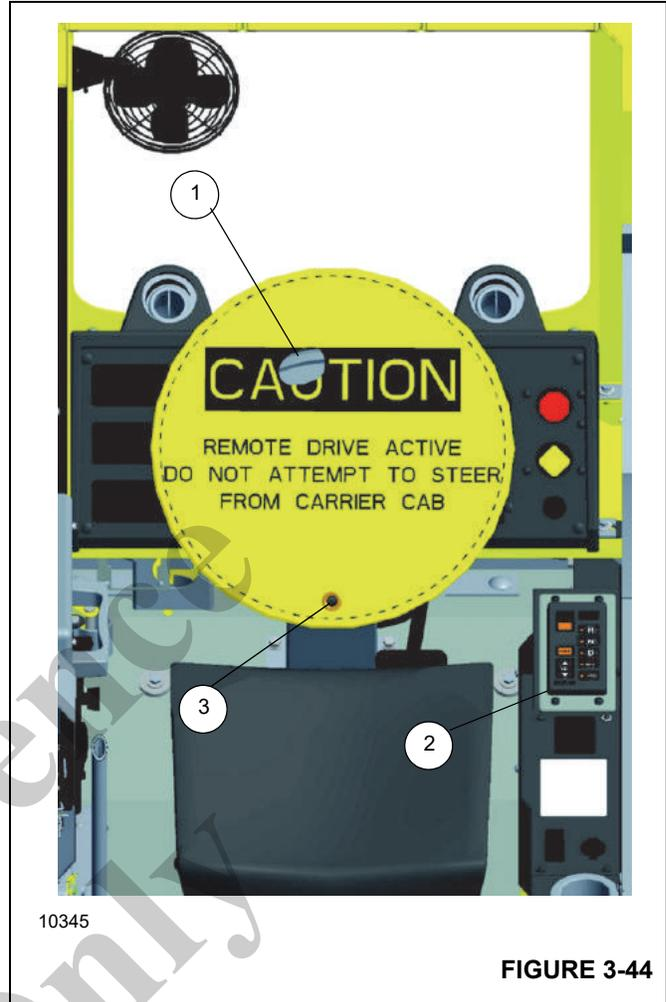

FIGURE 3-44
The Pushbutton Shifter (2, Figure 3-44) is located in the Right-Hand Console of the Carrier Cab. The Remote Drive Indicator (1) will appear on the LCD of the gauge cluster when Remote Drive is active. A Steering Wheel Cover is provided to Caution anyone who may enter the Carrier Cab while in Remote Drive Mode. Use the provided Cable Lock to secure the cover.